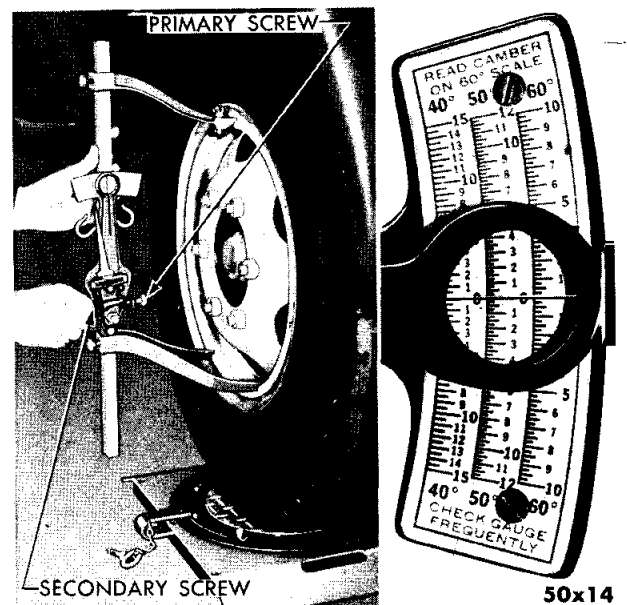

Fig. 20—Checking Camber
- (1) Place the wheels in the straight-ahead position, with the weight of the truck on the wheels and the front end of the truck level.
- (2) Assemble the gauge so that the quadrant is at right angles to the wheel, as shown in Figure 20.
- (3) Adjust the secondary screw so that the pointer lines up with the scratch mark.
- (4) Adjust the primary screw so that the spirit level bubble is centered.
- (5) Take the camber reading in degrees on the scale. *Always use the 60 degree section of the quadrant for checking camber.* If the wheel is not true, turn it 180 degrees and take another reading. Compute an average of the two readings to obtain correct camber angle.
- (6) Readings from zero towards the wheel indicate camber. Readings away from the wheel indicate reverse camber.
- (7) Check the camber of the opposite wheel in the same manner.